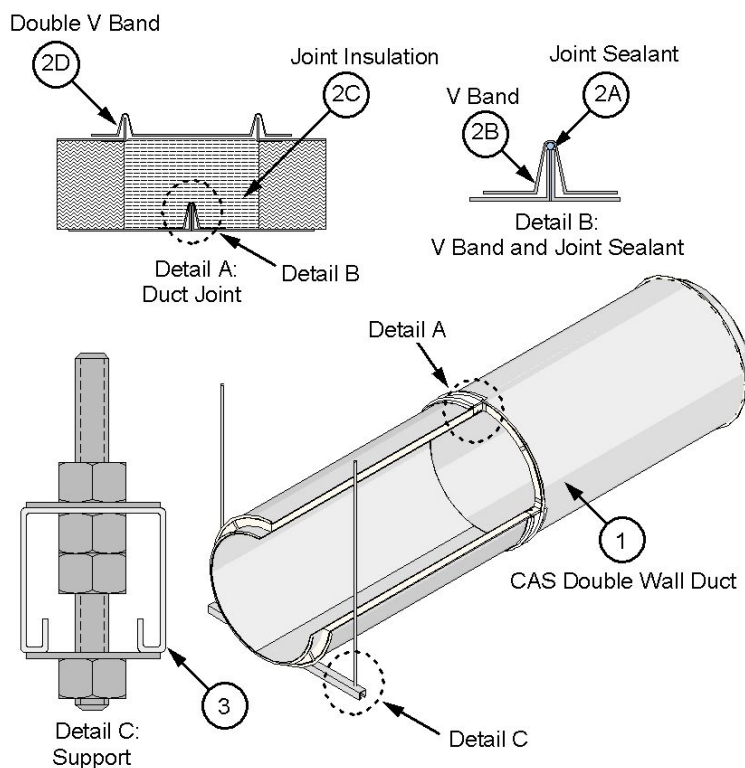

Figure 1. CAS Double Wall Duct and Horizontal Support
B. **V BAND** – Use the supplied V band (see Figure 1). Place the loose V band, filled with joint sealant (Item 2A), over one of the inner duct flanges. Join to the other inner duct flange with the continuous bead of joint sealant (Item 2A) and rotate slightly to ensure complete coverage of joint sealant (Item 2A) on flanges. Ensure that the flanges are located within the V band and that the V band hardware is not at the bottom side of a horizontal duct. Tap the V band while tightening the integral 1/4-20
- D. **DOUBLE V BAND** – Use the supplied double V band (see Figure 1). Place double V band with outer shell flanges seated in the V band; tighten integral 1/4-20 hardware to 40-60 in.lbs.
- A. **HORIZONTAL SUPPORTS** – Support the pre-fabricated grease duct (Item 1) using min. 12 GA, 1-5/8 in. x 1-5/8 in. Unistrut® channel or 2 in. x 2 in. x 1/4 in. steel angle as the supporting cross-member and two, min. 1/2 in. diameter, threaded steel rods connected using Grade 5 hex nuts and 1/2 in. hardened washers (see Figure 1, Detail C). Connect the threaded steel rods to the bottom of the floor assembly using an attachment method designed to carry the weight of the pre-fabricated grease duct (Item 1) under a fire load equivalent to ASTM E 119 time-temperature curve for a 2-